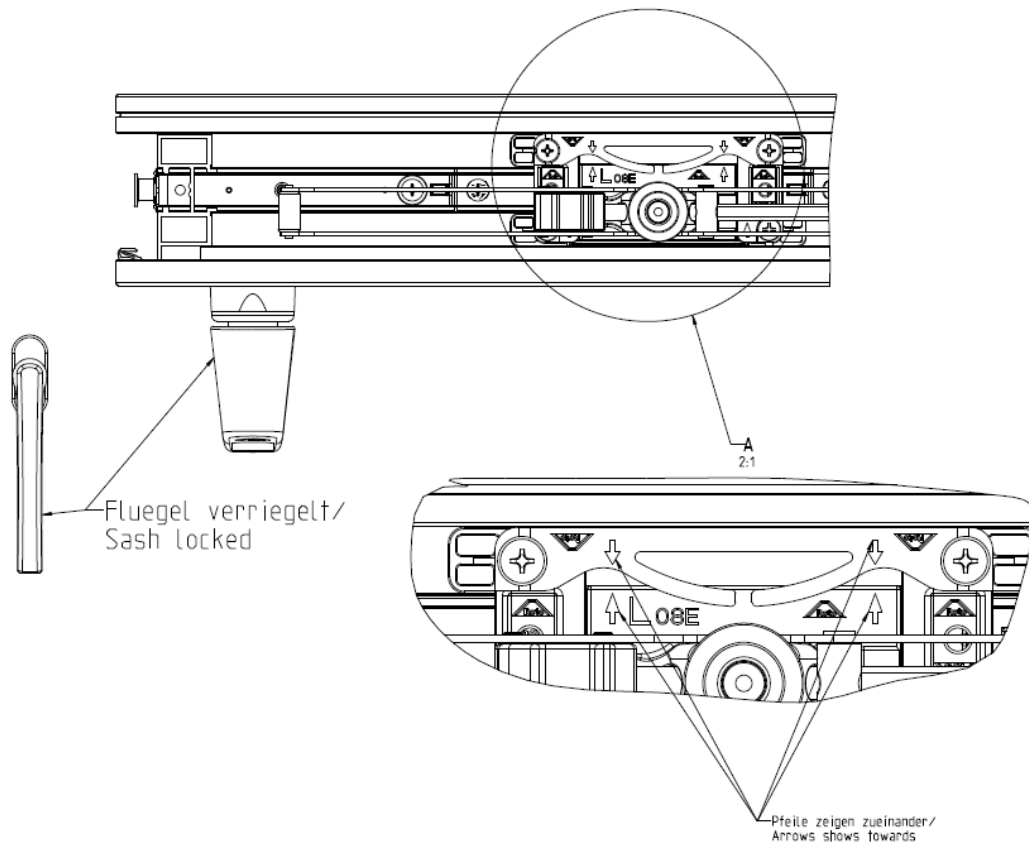

Fig. 2
1. Put the handle in the locked position (Fig. 2)
3. Align the PIN centering unit with the arrows on the control unit (Fig. 2)
4. Fasten the PIN centering unit with 2 screws (Fig. 2)
6. Align the PIN centering unit with the arrows on the control unit (Fig. 2)
7. Fasten the PIN centering unit with 2 screws (Fig. 2)